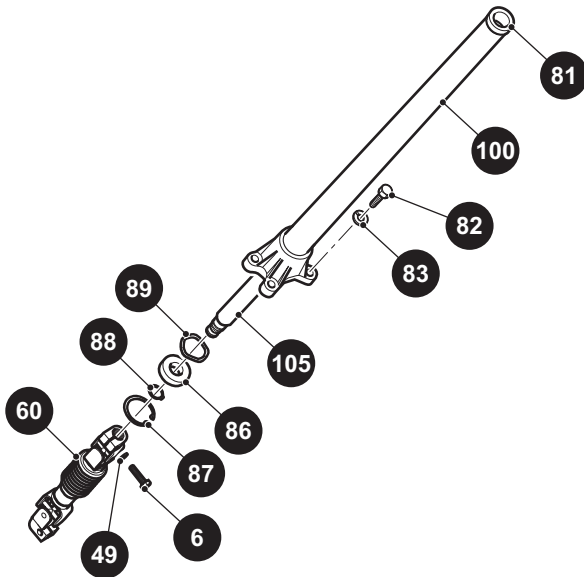

Fig. 21 Steering Shaft and Column
16. Tighten the bolt (6) securing the intermediate shaft (60) to the steering shaft (105) to the torque values below (Ref Fig. 21).